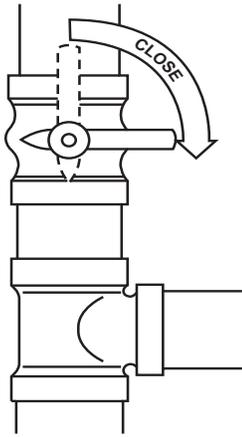

Fig. 8 – Close Valve
2. Close the external manual gas valve (see Fig. 8).